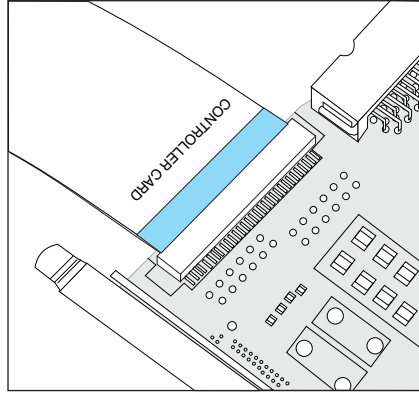
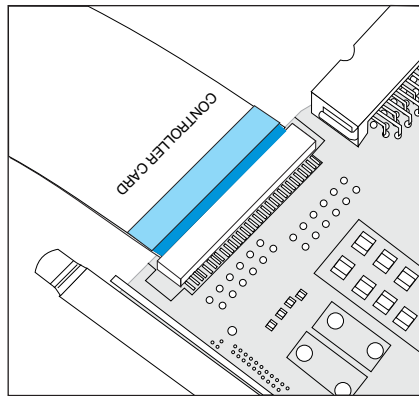
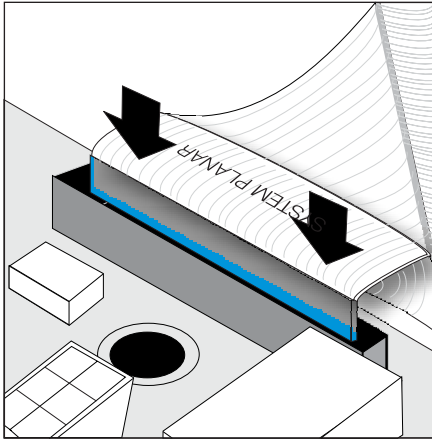

Figure 90. Service Controller card cable installed properly
Figure 91. Service Controller card cable not properly seated
Figure 93. Install the service controller card cable into the system board
- b. Before you reconnect the ribbon cable, ensure that its contacts are downward. **CAREFULLY** install the cable to the rear of the service controller being sure to install the cable straight in with no rocking or twisting during installation. Be sure to verify that the dark blue line on the cable connector ends is not visible. This ensures that the cable is fully seated. See Figure 90 on page 149 and Figure 91 on page 149.
- c. To reinstall the cables, CAREFULLY install the one end of the ribbon cable (marked "System Planar") to the system board being sure to install the cable straight in. See Figure 93 on page 152. Now route the flat cable and feed it through the opening where the service controller is to be installed and bring the other end of the cable (marked "Controller Card") out of the front end of the SAN Volume Controller chassis. Next, CAREFULLY install this other end of the cable to the rear of the service controller being sure to install the cable straight in with no rocking or twisting during installation. Install the ATA cable to the rear of the service controller. Carefully install the service controller while ensuring the cables do not get damaged as they slide into the chassis. Be sure to verify that the blue line on the cable connector ends is not visible. This ensures that it is fully seated. See Figure 90 on page 149 and Figure 91 on page 149.